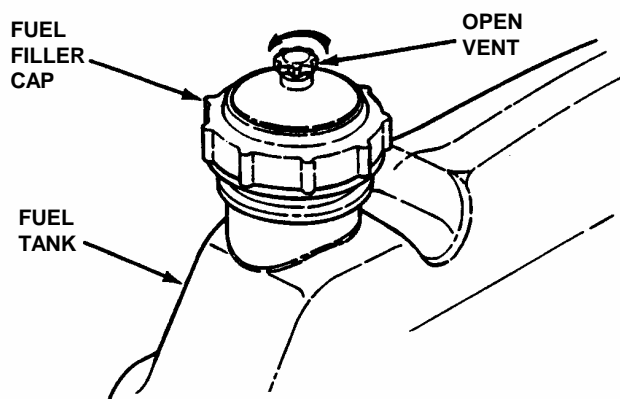

FIGURE 2.2
**2.1.6.** Add fuel to tank after pushing the Rear Engine Rider outside where fumes can dissipate. Make sure fuel filler cap is tight and vent is open after refueling. Refer to engine owner's manual for fuel specifications. See Figure 2.2.
4. Open vent on fuel filler cap by turning counterclockwise. **IMPORTANT:** Failure to open vent on the fuel filler cap can cause engine to stall. See Figure 2.2.
4. Open vent on fuel filler cap by turning counterclockwise. NOTE: Failure to open vent on the fuel filler cap can cause engine to stall. See Figure 2.2.